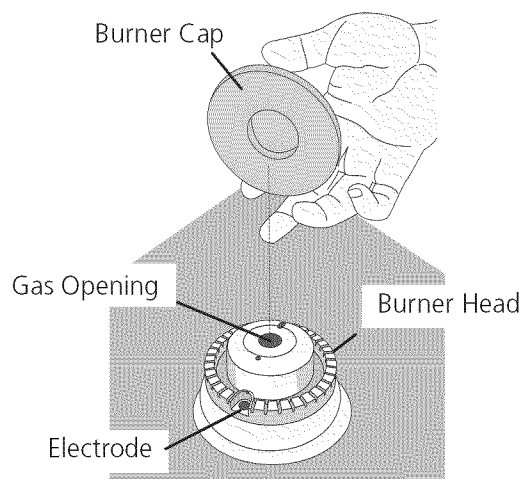

Figure 14
- B. **Regular Burners:** Burner heads and burner caps are already on the surface. Remove all tapes from burner caps and verify if they are correctly place on the burner heads (see Figure 14).